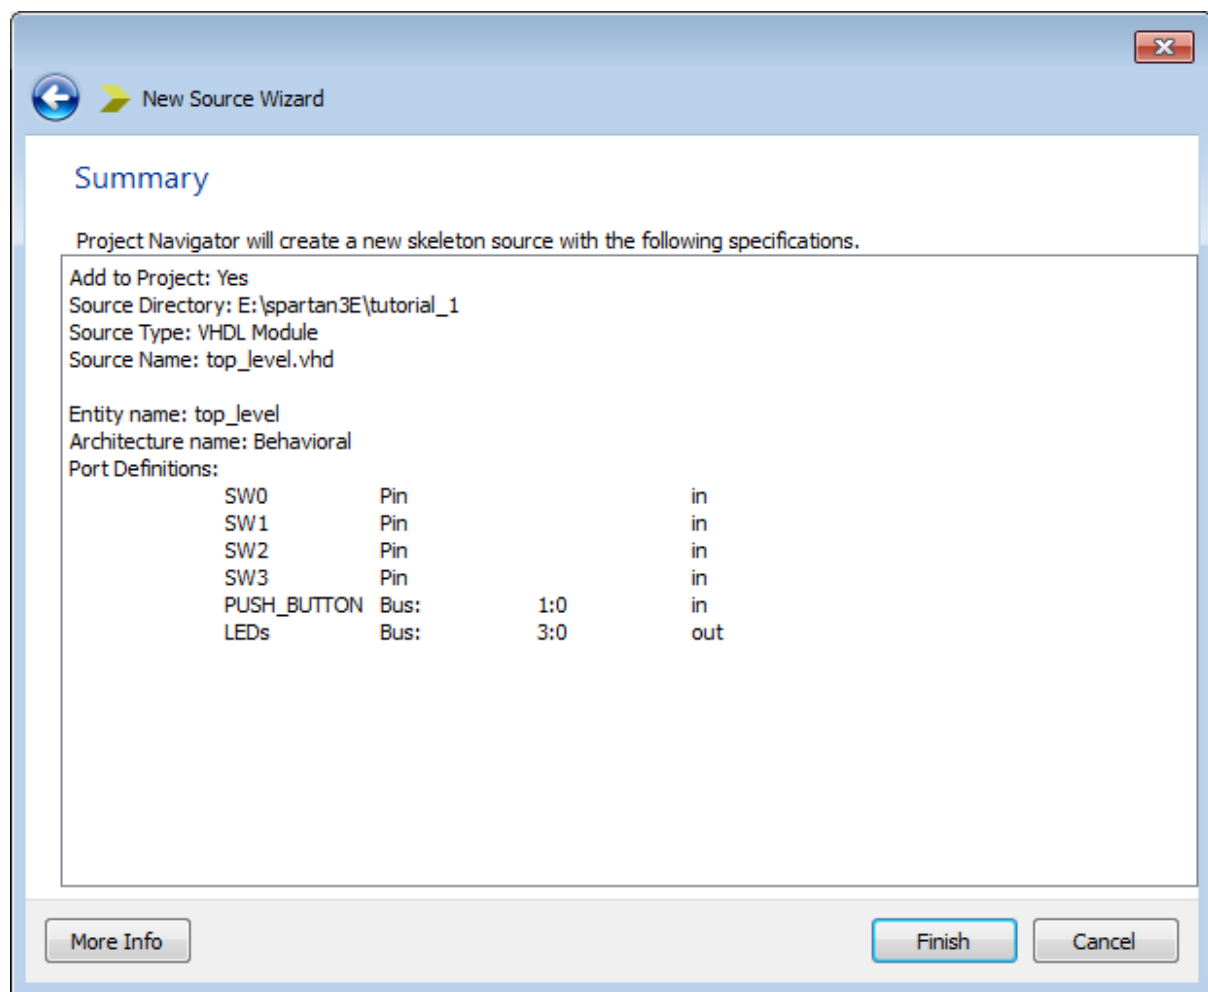

Figure 3.9: New Source Wizard, Summary.
8. Click **Next** to move to the **Summary** page, as shown in Figure 3.9.